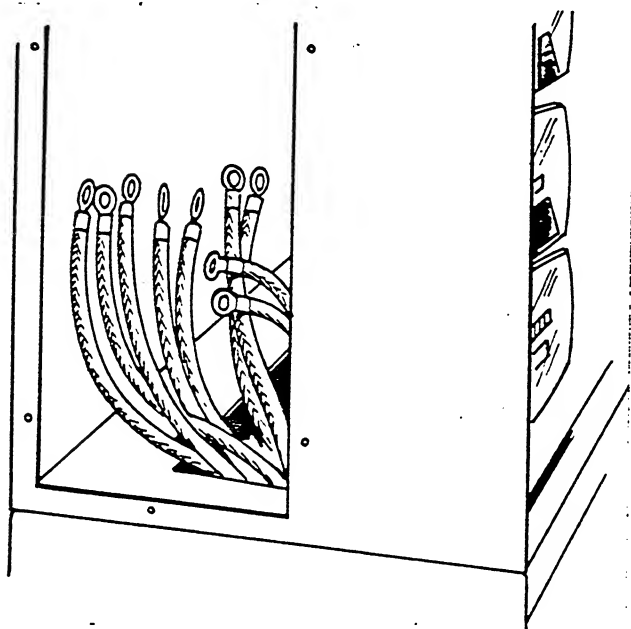

FIGURE 13. CONTROL BOX (SIDE PANEL REMOVED)
1. Remove either right, left or top panel from control box. See Figure 13.